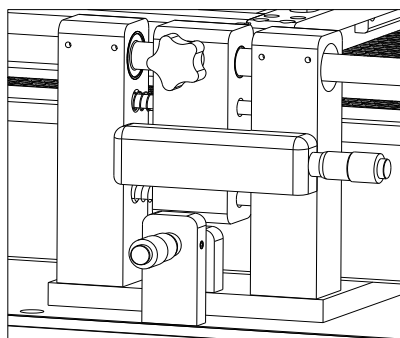

Figure18: PCB clip micro-adjust knob
10、 Pull out the optical alignment system by manual as the Figure (16), in that time will show BGA bottom pad and PCB board with two interlaced images on the CCD monitor.
11、 As Figure (16) you can adjust the focus of optical lence in the arrow position ;
12、 Adjust PCB board X、 Y axis micro-adjust knob(Figure 18) and BGA micro-adjust knob (Figure 17), make two images together completely, and the positioning is finished very well ;
13、 after finished the positioning, turn the optical system back to the origin position, and click Figure (12) positioning completed knob ;
1. Back to the boot screen, (Figure18); click “OPERATION”, (Figure18), then it will show operation curve screen. (Figure19)